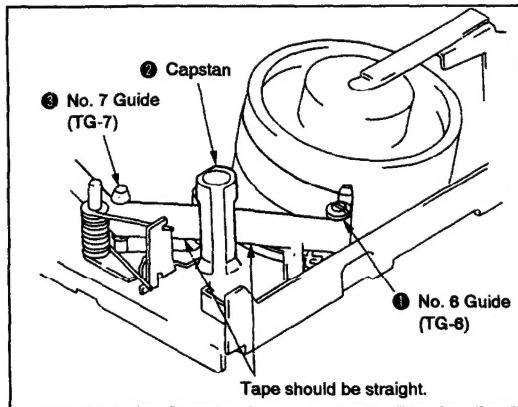

Fig. 4-15.
4-8-2. Rising Check (See Fig. 4-15.)
- 4) Set the playback mode and confirm that the RF waveform rises flat within 2 seconds. Also confirm that the tape is not bent around the pinch roller (See Fig. 4-15).